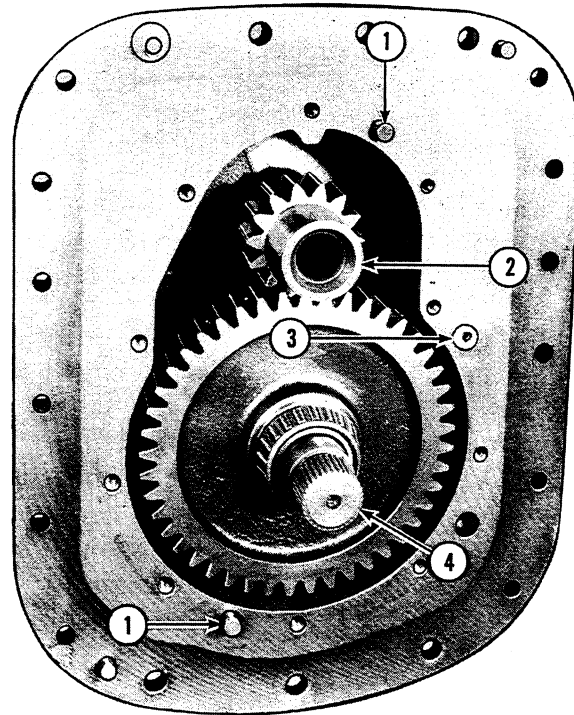
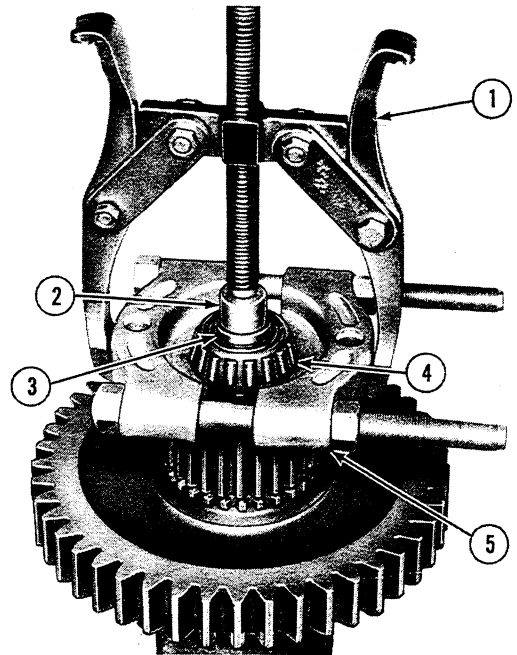
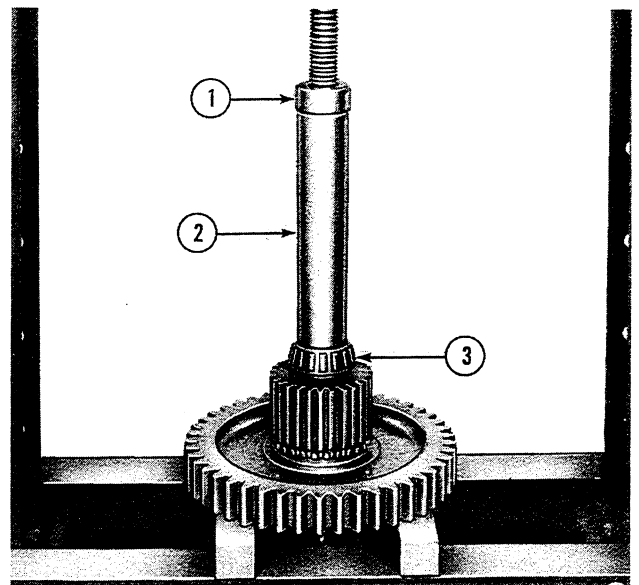

Figure 19
Figure 26
Figure 27
8. Remove the output shaft assembly (4), Figure 19, by pulling it straight out. Remove the secondary countershaft (2), from the case. Remove the thin thrust needle bearing from the front of the countershaft by removing the retaining ring.
6. Inspect the output shaft assembly (4), Figure 19, for damage or excessive wear. Check the needle bearing in the gear for wear. If necessary, remove the pilot bearing (4), Figure 26, from the shaft using Tool Numbers 1002, 625-3, and 951 as shown. Install a new bearing using Tool Number 625-4 and a convenient length sleeve of the appropriate diameter as shown in Figure 27.
4. Place the secondary countershaft (2), Figure 19, in the case with the thrust bearing to the front and seat the bearing against the mainshaft.